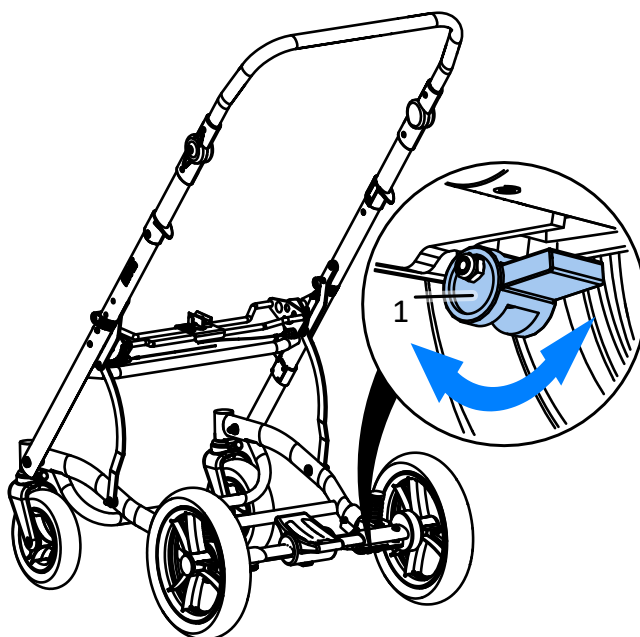

Fig. 15
Depending on his or her needs, the user may set the level of suspension stiffness by moving the lever (1) into the second position Fig. 15. This adjustment has to be performed both on the right, as well as on the left side.